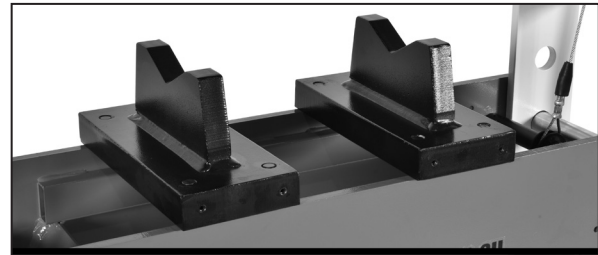

FIG.4.6
1. Place the workpiece on the bed. It must be completely stable and supported by packing or shims where required. Steel pressing plates are supplied, (Fig.4.6) locate on the bed. Place the workpiece on a combination of these to give it stability.